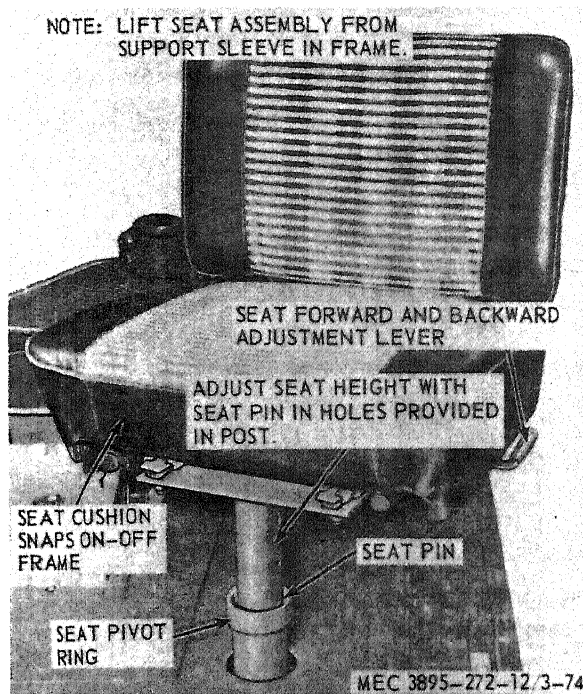

Figure 3-74. Seat assembly, removal and installation.
a. *Removal.* Remove the seat assembly as instructed on figure 3-74.
- (1) Clean all parts with an approved cleaning solvent.
- (2) Inspect all parts for wear and damage. Replace worn or damaged parts.
c. *Installation.* Install the seat assembly in reverse of the instructions on figure 3-74.